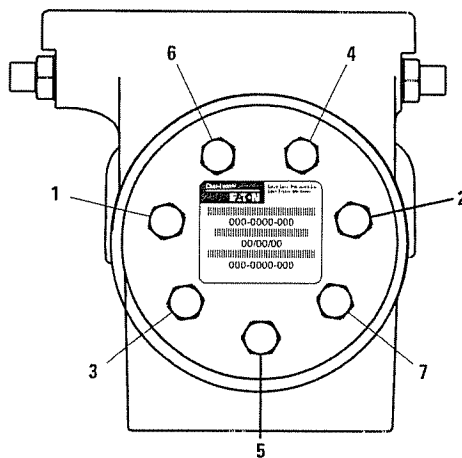

Figure 27
45. Install 7 dry cap screws in end cap. Pretighten cap screws to 17Nm [150 lb-in], then torque screws to 28-34 Nm [250-300 lb-in] in sequence shown in figure 27.